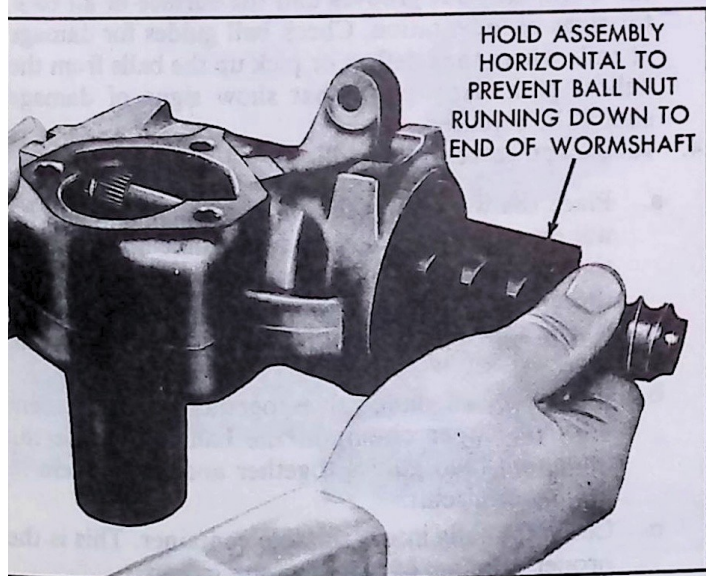

Fig. 6—Removing the Wormshaft and Ball Nut—Typical
6. Draw the wormshaft and ball nut assembly from the housing (fig. 6).